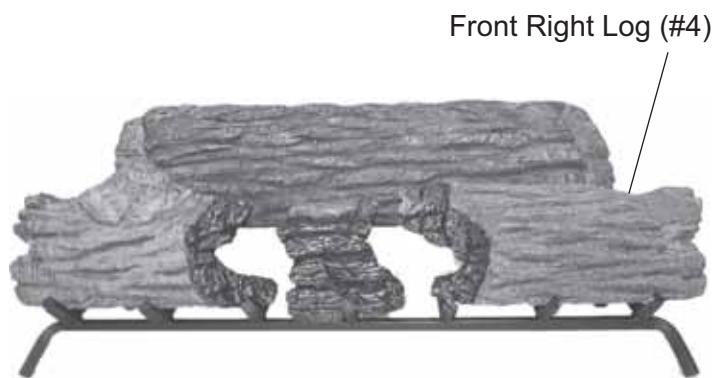

Figure 39 - Placing Right Front Log (#4)
5. Place front right log #4 in front of the plate and to the right. See *Figure 39*.